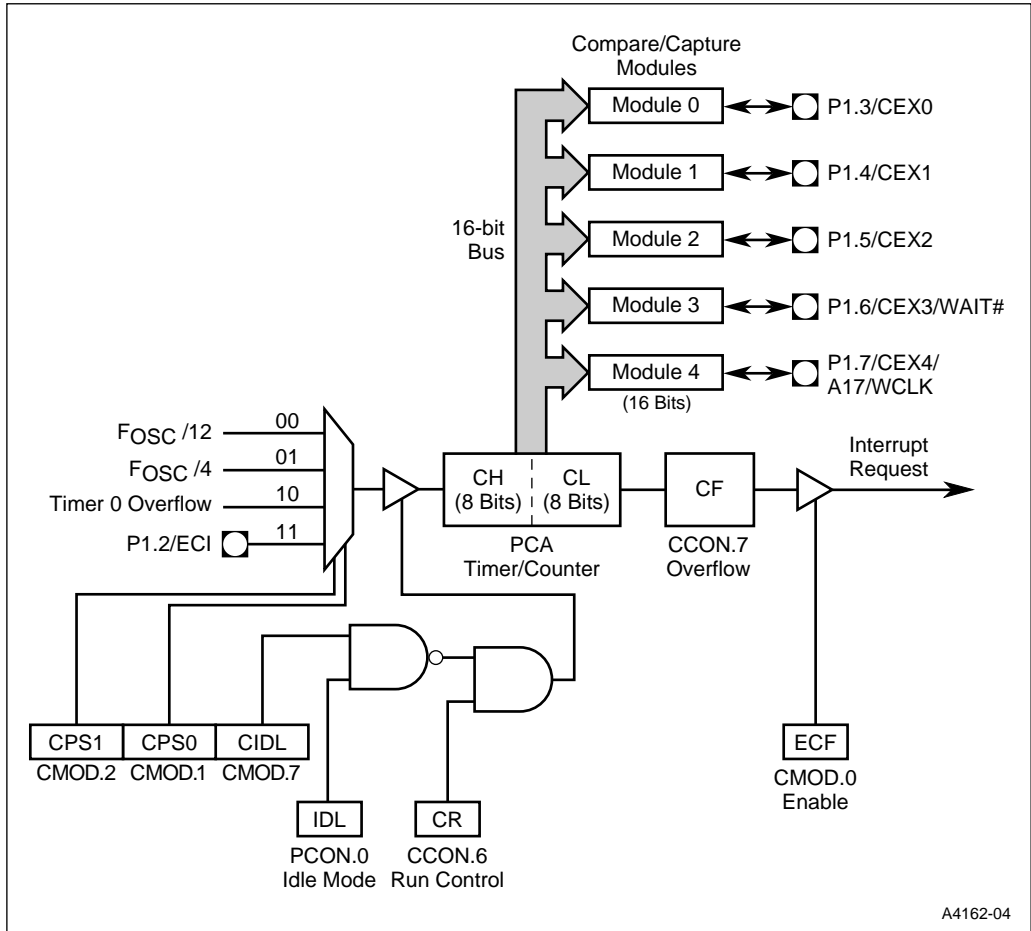
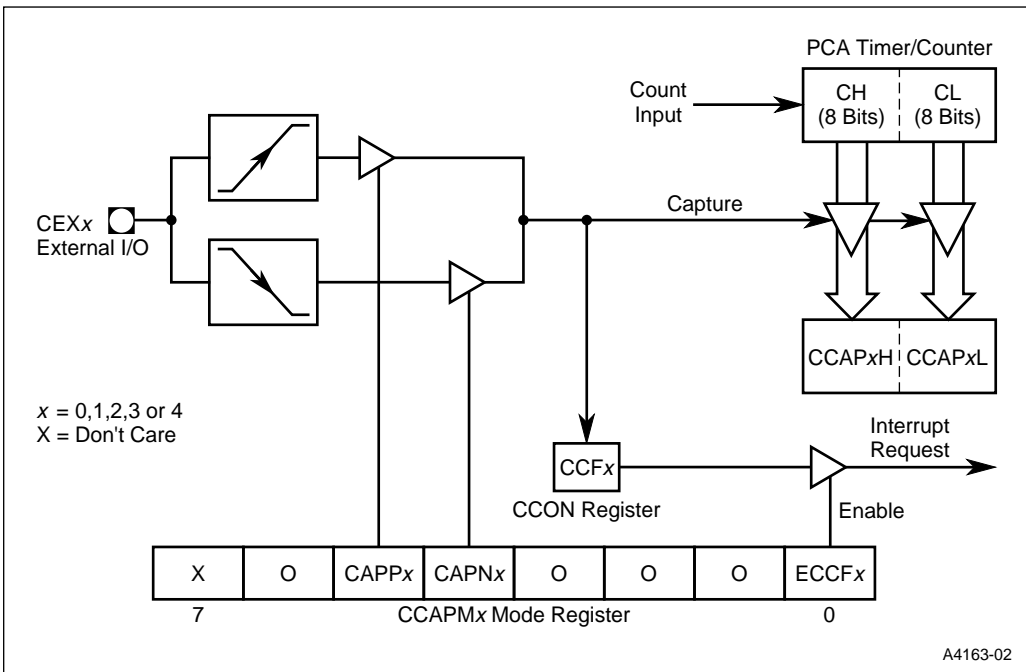

Figure 9-1. Programmable Counter Array
Figure 9-2. PCA 16-bit Capture Mode
The programmable counter array (PCA) consists of a 16-bit timer/counter and five 16-bit compare/capture modules. The timer/counter serves as a common time base and event counter for the compare/capture modules, distributing the current count to the modules by means of a 16-bit bus. A special function register (SFR) pair, CH/CL, maintains the count in the timer/counter, while five SFR pairs, CCAPxH/CCAPxL, store values for the modules (see Figure 9-1). Additional SFRs provide control and mode select functions as follows:
The PCA timer/counter and the five compare/capture modules share a single interrupt vector. The EC bit in the IE special function register is a global interrupt enable for the PCA. Capture events, compare events in some modes, and PCA timer/counter overflow all set flags in the CCON register. Setting the overflow flag (CF) generates a PCA interrupt request if the PCA timer/counter interrupt enable bit (ECF) in the CMOD register is set (Figure 9-1). Setting a compare/capture flag (CCF_x) generates a PCA interrupt request if the ECCF_x interrupt enable bit in the corresponding CCAPM_x register is set (Figures 9-2 and 9-3). For a description of the 8XC251Sx interrupt system see Chapter 6, "Interrupt System."
Figure 9-1 depicts the basic logic of the timer/counter portion of the PCA. The CH/CL special function register pair operates as a 16-bit timer/counter. The selected input increments the CL (low byte) register. When CL overflows, the CH (high byte) register increments after two oscillator periods; when CH overflows it sets the PCA overflow flag (CF in the CCON register) generating a PCA interrupt request if the ECF bit in the CMOD register is set.
Setting the run control bit (CR in the CCON register) turns the PCA timer/counter on, if the output of the NAND gate (Figure 9-1) equals logic 1. The PCA timer/counter continues to operate during idle mode unless the CIDL bit of the CMOD register is set. The CPU can read the contents of the CH and CL registers at any time. However, writing to them is inhibited while they are counting (i.e., when the CR bit is set).
The logical configuration of a compare/capture module depends on its mode of operation (Figures 9-2 through 9-5). Each module can be independently programmed for operation in any of the following modes:
The capture mode (Figure 9-2) provides the PCA with the ability to measure periods, pulse widths, duty cycles, and phase differences at up to five separate inputs. External I/O pins CEX0 through CEX4 are sampled for signal transitions (positive and/or negative as specified). When a compare/capture module programmed for the capture mode detects the specified transition, it captures the PCA timer/counter value. This records the time at which an external event is detected, with a resolution equal to the timer/counter clock period.